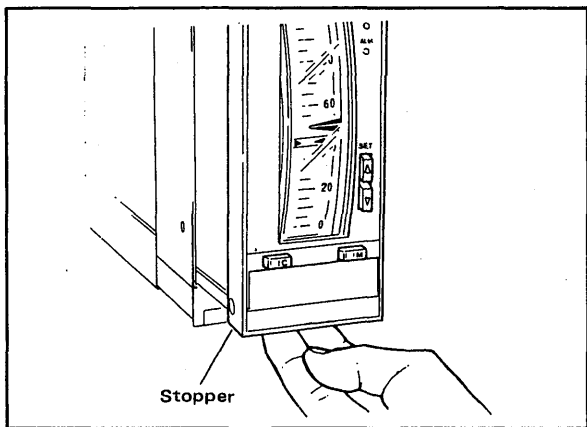

Figure 5-7. Withdrawing the Internal Unit.
- (1) Push up the stopper spring at the bottom front of the internal unit and pull the instrument body out from the housing. (See Figure 5-7).